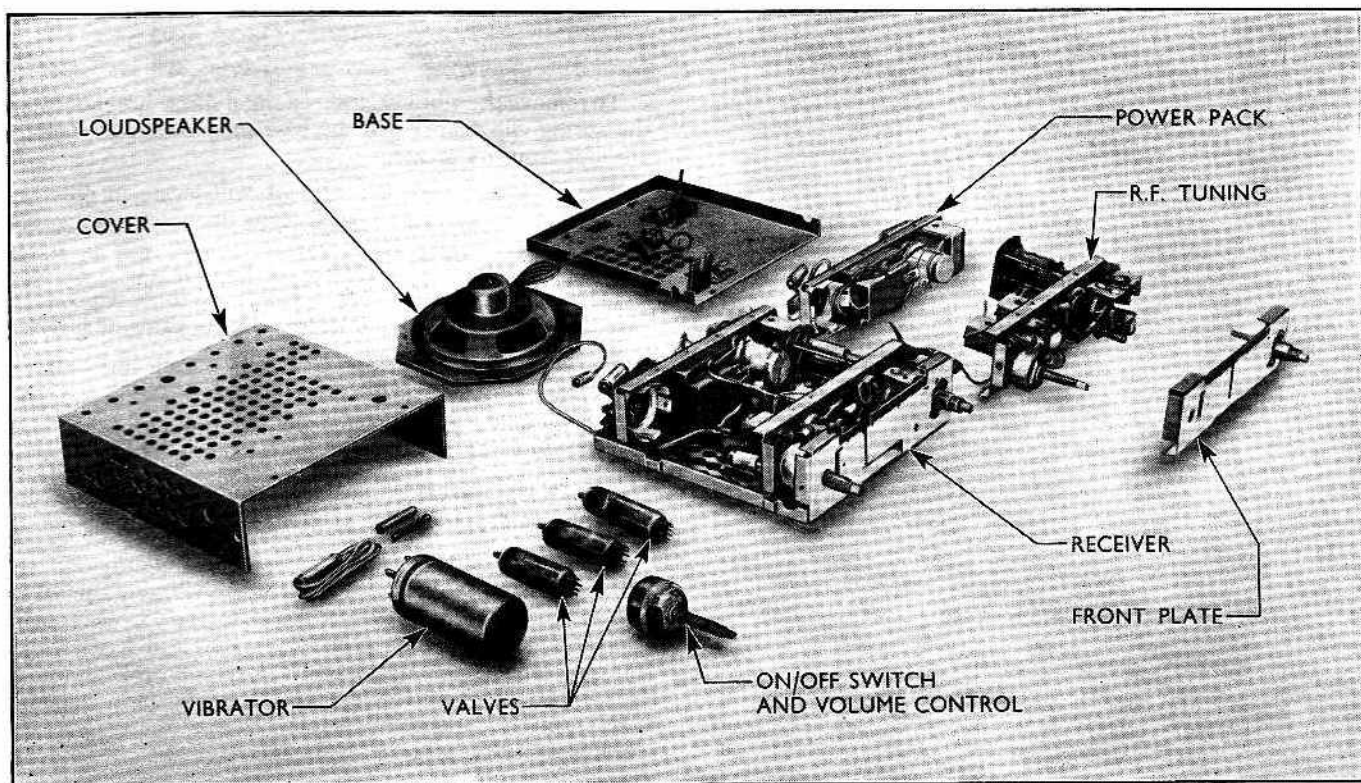

Fig. 608
Unit removal and replacement instructions are given in the section "Repair Procedure." When required, a vibrator, valve or valves, should be renewed and, if necessary, use made of the exchange chassis units scheme. Fig. 608 illustrates the four exchange units available (base, power pack, R.F. tuning and front plate) in addition to other components which are normal service items.
- 2 Unscrew the nine screws retaining the cover of the set to the chassis, and remove the cover, Fig. 608.